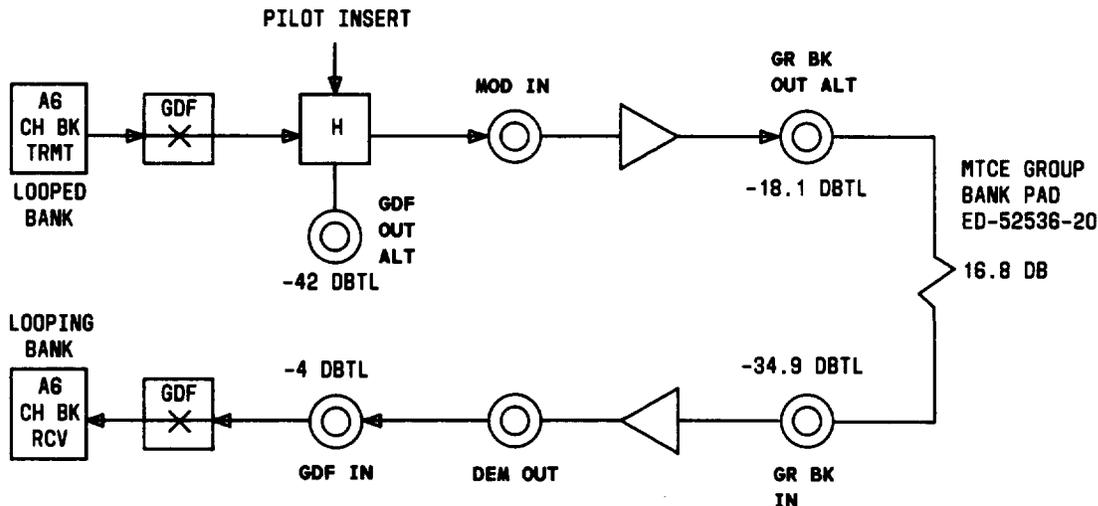

Fig. 13—Typical Channel Bank Equal-Level Cross-Looping Arrangements—LMX-3
- 4 At LMX-3 equipment, make looping connections as shown in Fig. 13.